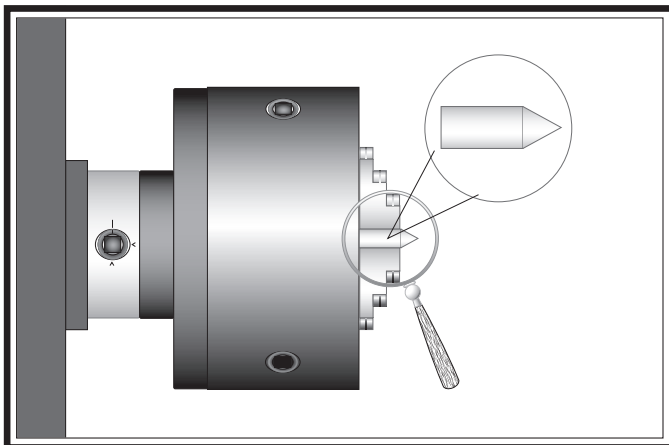

Figure 35. Turning a dead center.
3. Use the other piece of round stock to make a dead center, and turn it to a 60° point, as illustrated in **Figure 35**.